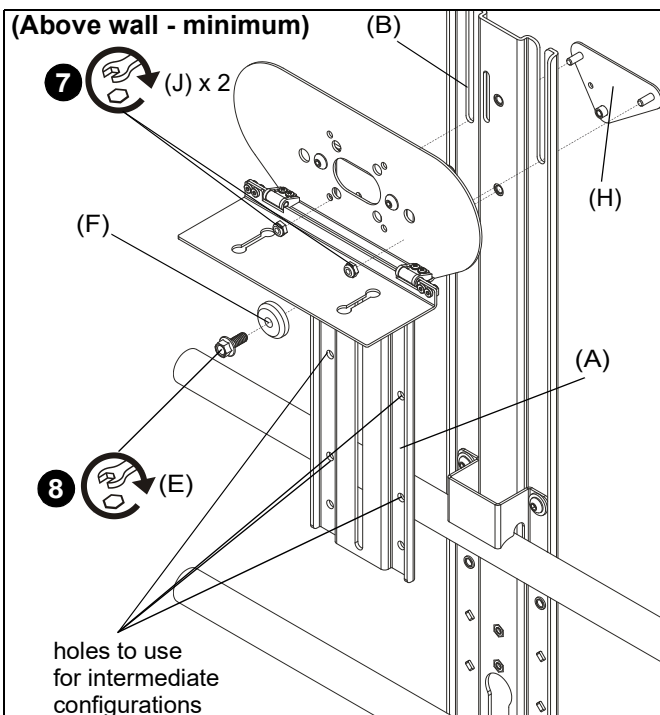

Figure 16
- (For **minimum/intermediate extension**) Use two #10-24 lock nuts (J) to secure upright bracket (A) to main bracket (B) and adapter plate (H). (See Figure 16)
**NOTE:** Camera shelf (D) will need to be temporarily removed in order to attach lock nuts (J) for minimum extension.
- (For **minimum/intermediate extension**) Use 1/4-20 x 5/8" hex head flange bolt (E) and center washer (F) to secure upright bracket (A) to main bracket (B). (See Figure 16)